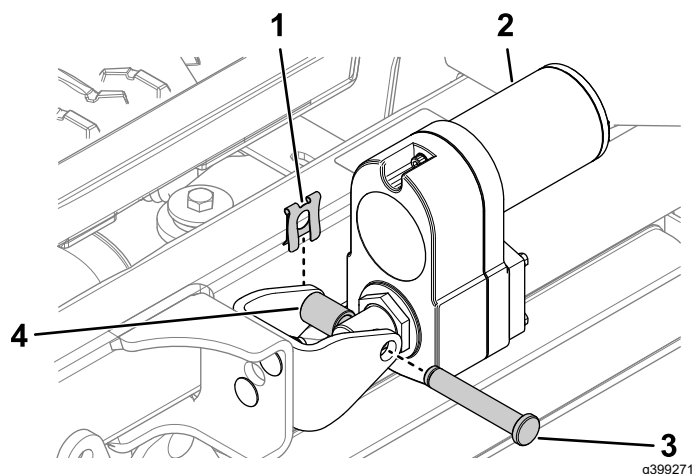

Figure 25
- Secure the actuator to the actuator mount using the clevis pin, the aluminum spacer, and the pin clip as shown in Figure 25.